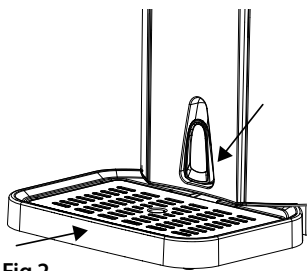

Fig.2
3. Push the drip tray and drip grid into the corresponding opening on the dispenser. Make sure that the drain lever is closed (Fig. 2) and that the tap is shut.